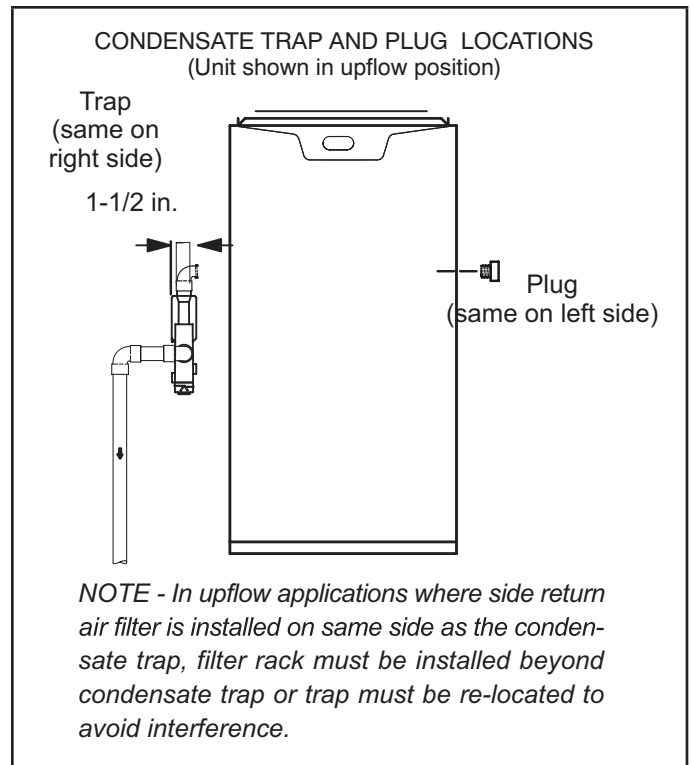
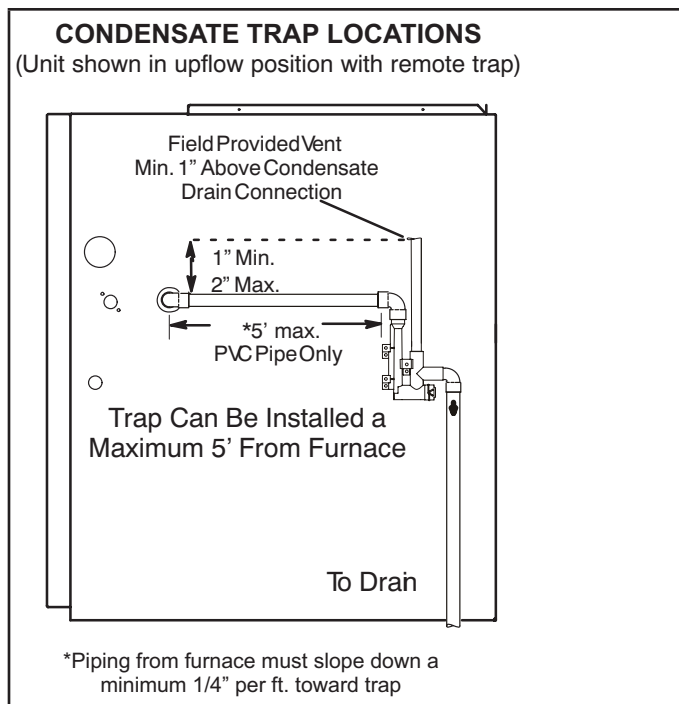
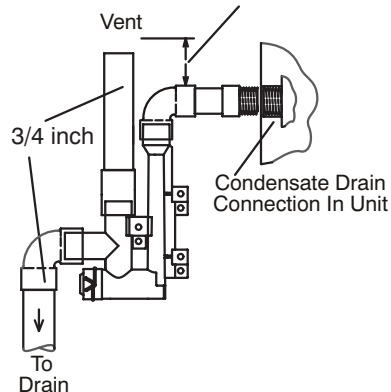

FIGURE 33
FIGURE 35
FIGURE 41
This unit is designed for either right- or left-side exit of condensate piping in upflow applications. In horizontal applications, the condensate trap must extend below the unit. An 8" service clearance is required for the condensate trap. Refer to FIGURE 33 and FIGURE 35 for condensate trap locations. FIGURE 41 shows trap assembly using 1/2" PVC or 3/4" PVC.
- 2 - Use a large flat head screw driver or a 1/2" drive socket extension and remove plug (figure 33) from the cold end header box at the appropriate location on the side of the unit. Install provided 3/4 NPT street elbow fitting into cold end header box. Use Teflon tape or appropriate pipe dope.
- 3 - Install the cap over the clean out opening at the base of the trap. Secure with clamp. See FIGURE 41.
- 4 - Install drain trap using appropriate PVC fittings, glue all joints. Glue the provided drain trap as shown in FIGURE 41. Route the condensate line to an open drain. Condensate line must maintain a 1/4" downward slope from the furnace to the drain.